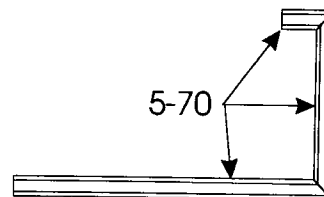

Figure 27
6. Follow the same procedure for the 3rd Floor Banister. It should encompass the right, back and part of the left sides of the stairwell. Fig. 27.